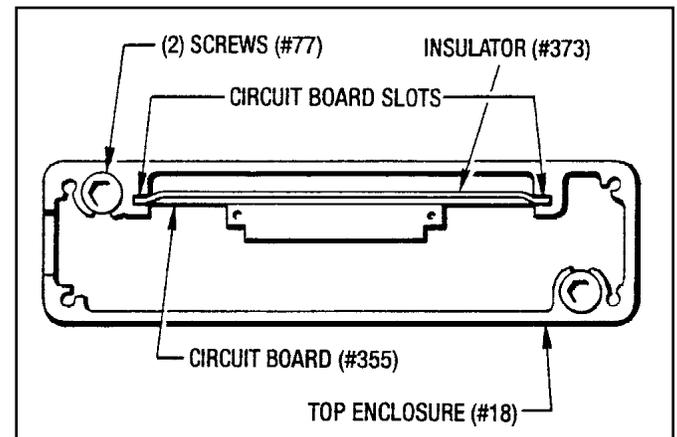

Figure 7.4 - Circuit Board Slots
8. While holding the Circuit Board (#355) upright slide the Upper Enclosure (#18) down over the Circuit Board (#355) on to the Disc Housing (#17) and Gasket (#19). (See Figure 7.4)
9. Check the Gasket (#19) to see if it is still in place. Insert the (4) Screws (#77) and tighten down.
10. Slide the Insulator (#373) down an into the Upper Enclosure (#18) behind the Circuit Board (#355) placing the tabs into the circuit board slots. (See Figure 7.4)
12. Place the Top Gasket (#19) on the Upper Enclosure (#18) and attach the Top Cover (#372) with (4) Screws (#225).